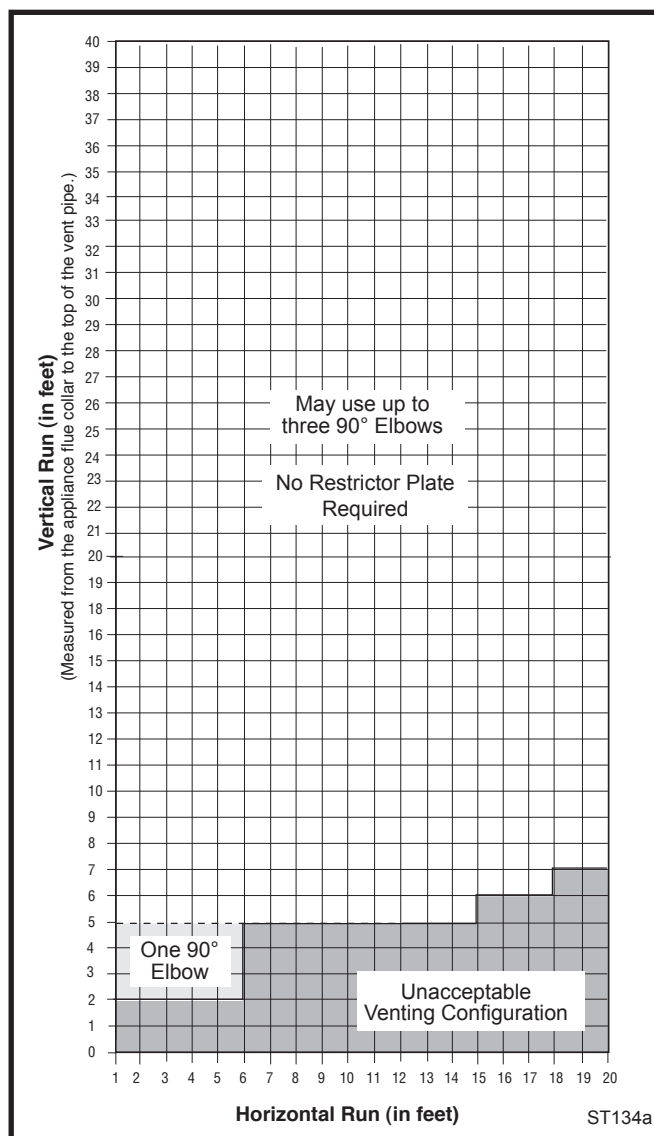

Fig. 7 Horizontal vent termination window.
The vent must rise vertically a minimum of 24" (610 mm) off the top of the unit, before the first elbow. The horizontal run may extend up to 20' (6m) and include a vertical rise of up to 40" (12 m). (Fig. 7) Horizontal termination must also meet the criteria shown in Figures 10 through 12.
- Approved vent systems must terminate above and including the heavy line in Figure 7.